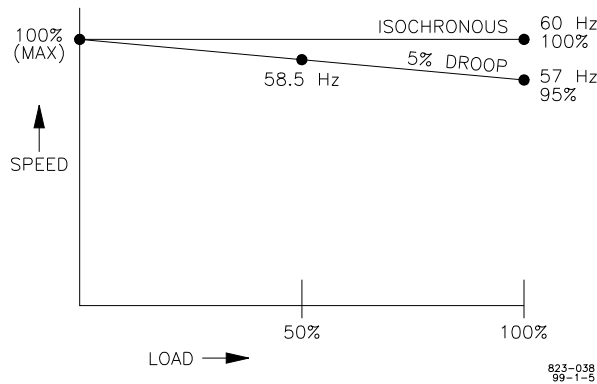

Figure 4-2. Droop Adjustment
- * If only 50% loading is possible, 58.5 Hz would indicate 5% droop. See Figure 4-2, Droop Adjustment.